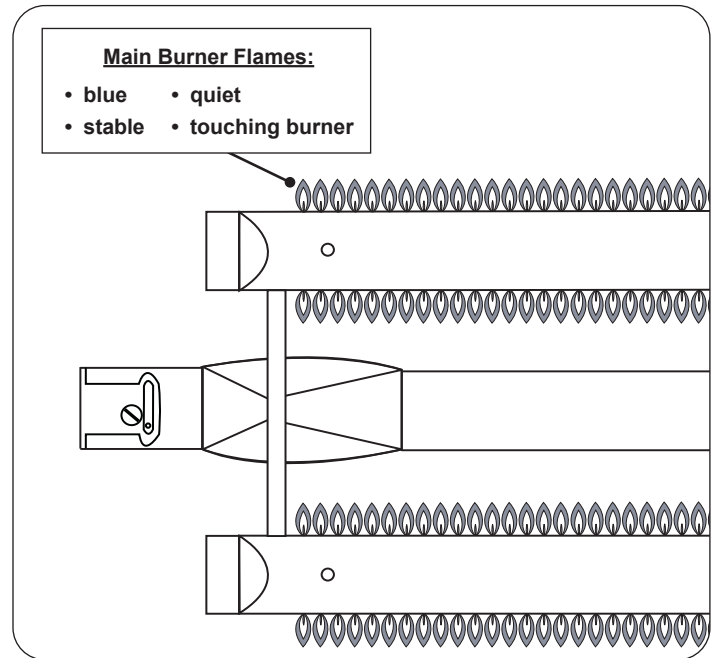

Fig. 44-1 Proper flame appearance
**Note:** To verify proper settings, the flames of the burners should be visually checked for proper flame appearance and behavior. Light the grill with the burner(s) on HI setting. Allow at least 2 minutes to burn. See below and Fig. 44-1. The flames should: